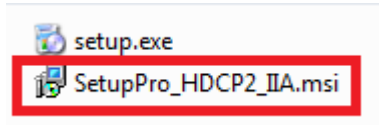

Figure 1.4. Locate and Open SetupPro_HDCP2_IIA.exe File in the USB Stick
1. Open and explore the supplied USB stick. Click SetupPro_HDCP2_IIA.msi (see Figure 1.4) to install HDCP 2.2 IIA Protocol Analyzer software.